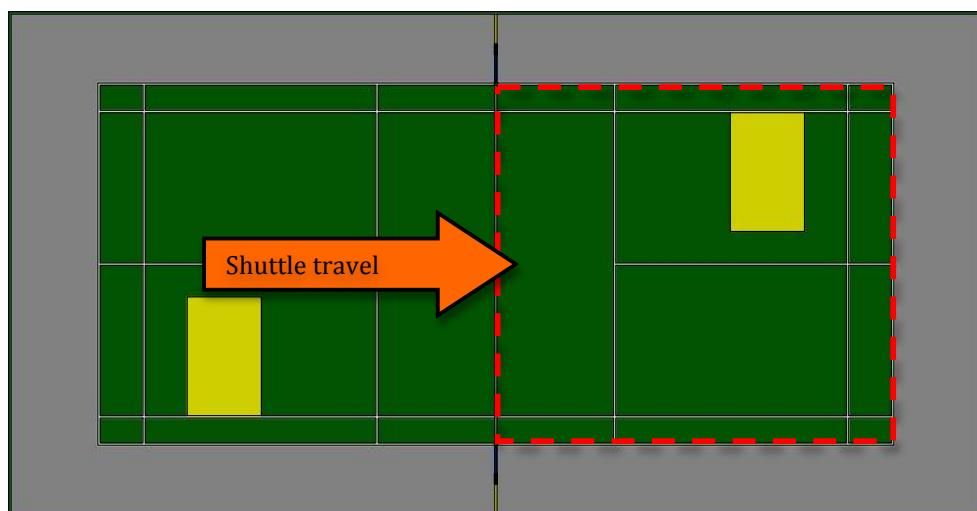

Figure 5: Legal landing area of shuttle hit (indicated by red dash-line)
4.5.3. Excluding service, if the shuttle hit by the racket lands in the opponent's court (including border line, refer to Fig.5) or comes into contact with the opponent's robot (if operated by cable, including cable and its operator) the team will gain score.
4.5.4. If the shuttle hit by the racket doesn't land on the opponent's court, (including border line, refer to Fig.5) opponent team will gain score.